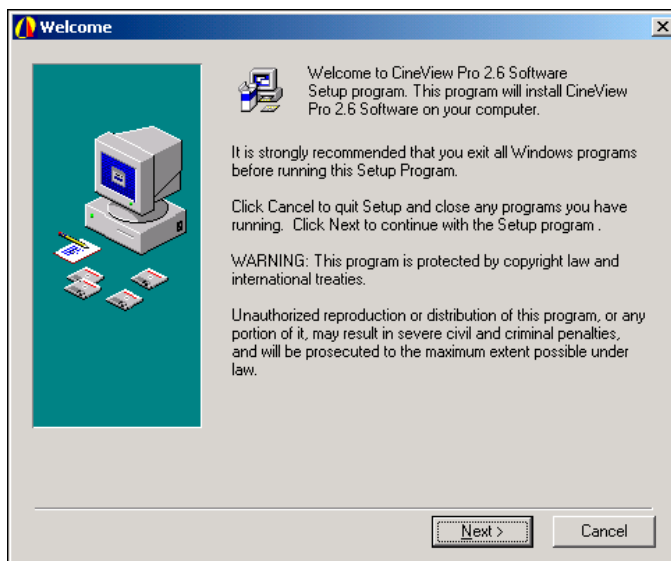

Figure 1-12. Install Welcome Screen
- Read the Welcome screen (Figure 1-12), then click Next.